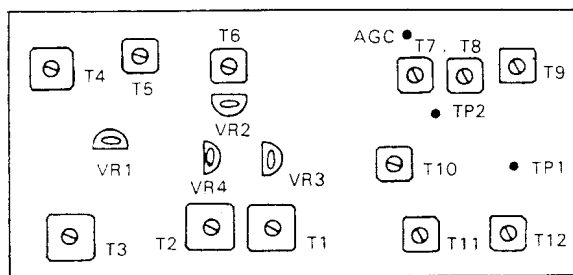
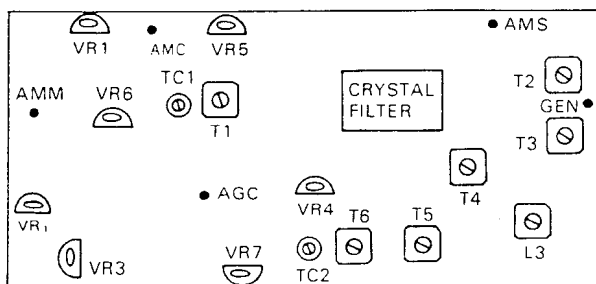

Fig. 18 RX-NB unit
Fig. 19 GEN unit
Decrease the SSG output gradually until AGC disappears. Adjust T4, T5 and T6 (of the GEN unit, Fig. 19), T1, T2, T3, T4, T5, T6, T7, T8 and T9 (of the RX NB unit, Fig. 18) in such a way that the pointer of the AF VTVM will deflect to the farthest possible position on the scale. Hold the SSG output always at such a level as will not cause the "S" meter pointer to deflect.
- 1) Connect the vacuum-tube voltmeter to TP3 (Fig. 18).
- 3) Minimize the DC voltage at TP2 by adjusting T8 ~ 10 (Fig. 18).
- 1) Adjust VR4 (Fig. 18) to make the pointer of this meter stay at "0" on the scale in the condition of non-reception of the signal.
- 4) Adjust VR2 (Fig. 18) to deflect the meter pointer to "9". Repeat the process, step 1) to 3), two or three times.
- 2) Adjust VR7 and TC2 (Fig. 19) to minimize and equalize the "S" meter deflection for the two sideband signals, USB and LSB
- 2) Adjust VR3 (Fig. 18) in such a way that the RF meter pointer will deflect to "8" (RF scale).
- 1) Referring to Fig. 19, connect the frequency counter or RF VTVM to the GEN terminal.
- 2) With MODE in FM position and STANDBY (STBY) in SEND position, adjust T3 (Fig. 19) to maximize the RF output voltage.
- 3) Adjust L3 (Fig. 19) to obtain a frequency of 10.700 MHz.
- 6) Adjust VR3 (Fig. 19) for 5 kHz frequency deviation.